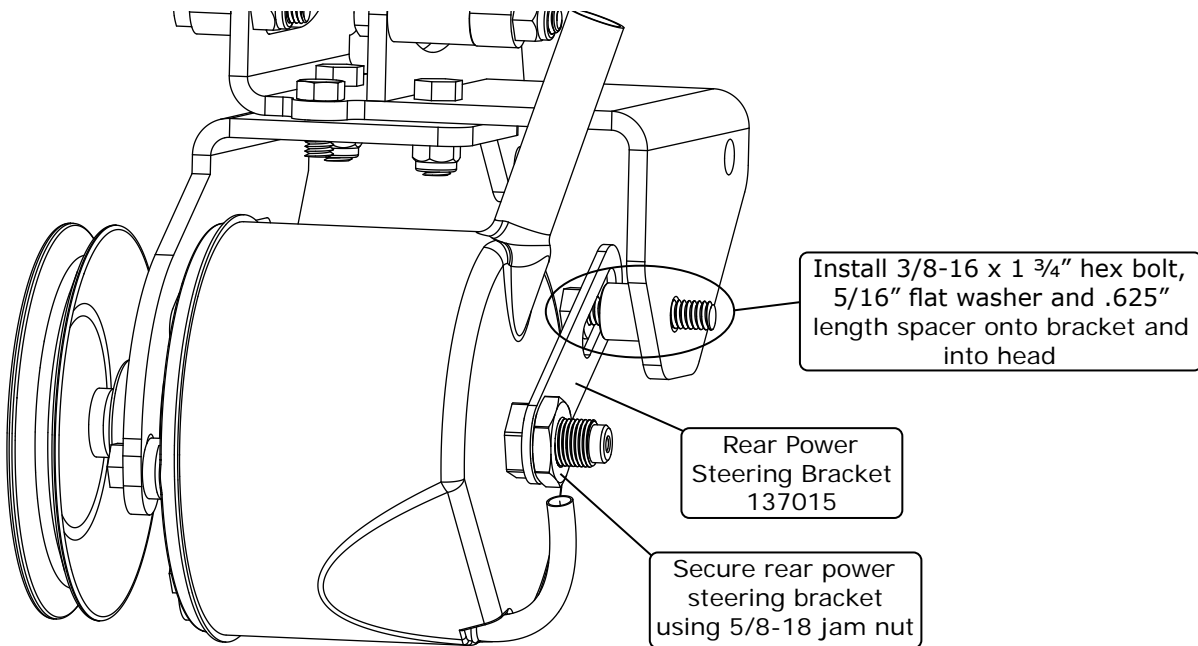

Figure 6
13. Secure the rear power steering bracket onto the pump using a 5/8-18 jam nut (See Figure 6, below).
14. Install a 3/8-16 x 1 3/4" hex bolt, 5/16" flat washer and a .625" length spacer onto the bracket and into the head (See Figure 6, below).